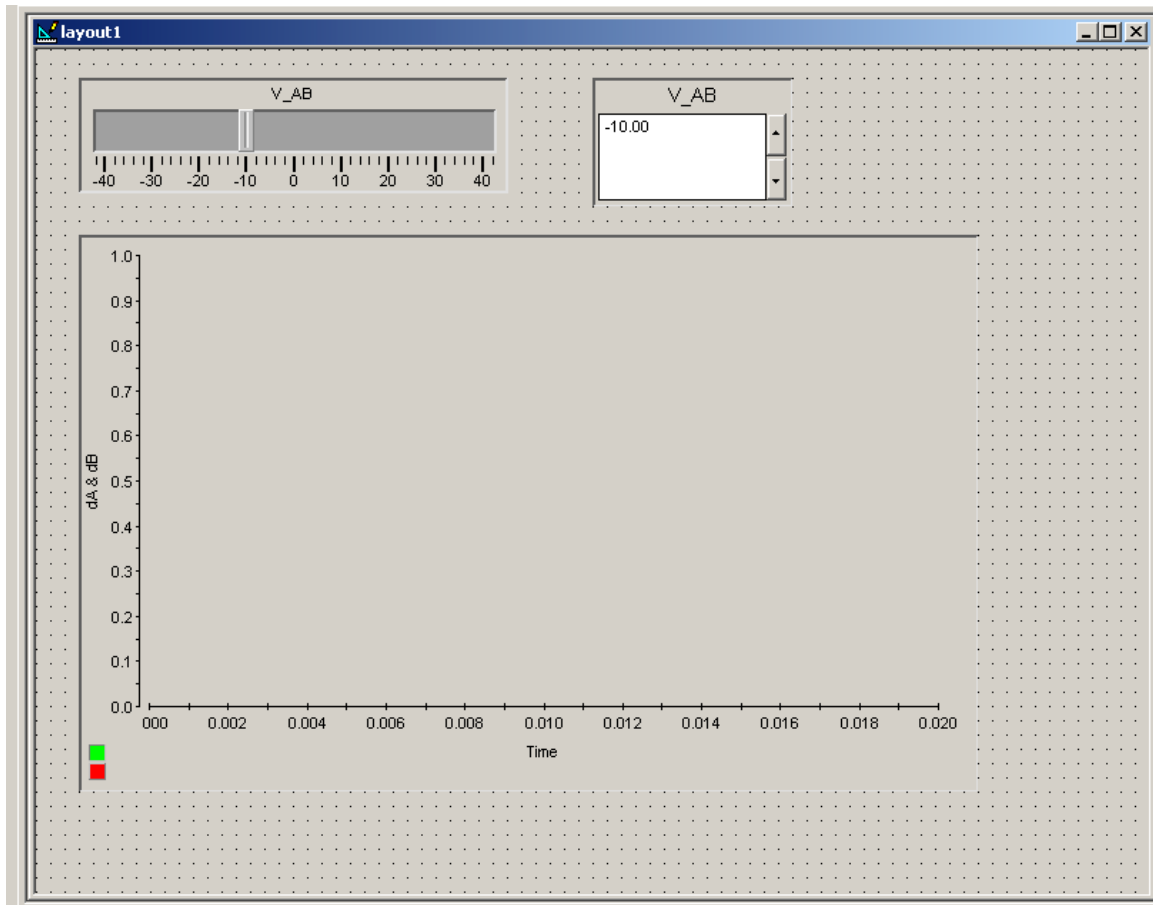

Figure 3.5: Control Desk layout for Switchmode DC COnverter
- Add some Plotters to visualise the duty-factors. Your layout should look similar to the one shown in Fig. 3.5